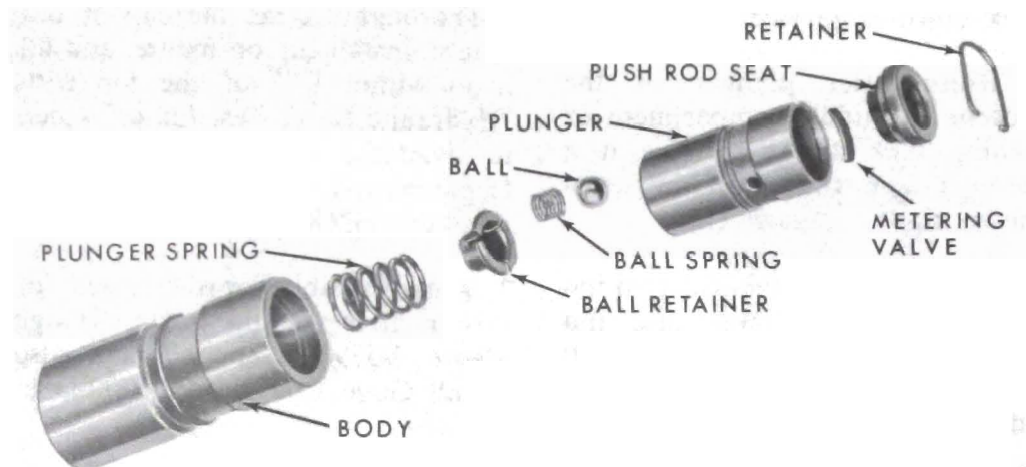

Figure 60-223--Hydraulic Valve Lifter Parts
16. Hold plunger in vertical position with feed hole up, then rinse and install the check ball, check ball spring, ball retainer, spring, and body over the plunger. See parts in Figure 60-223.